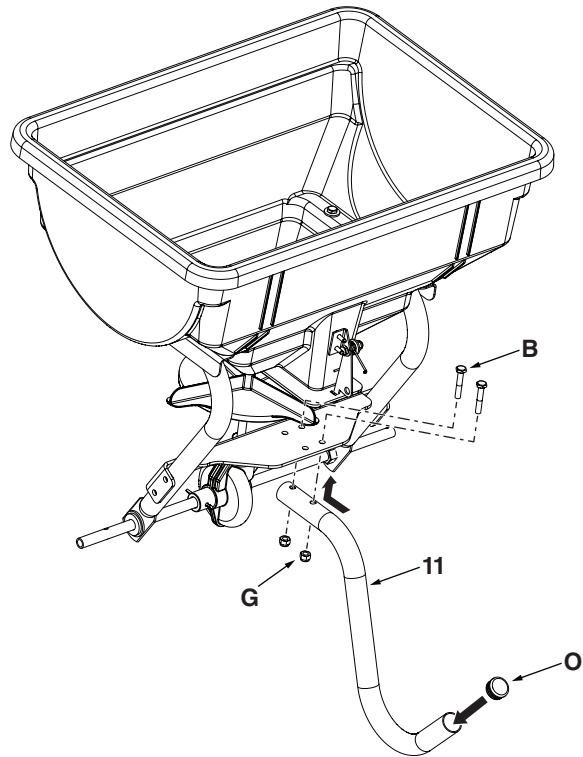

Figure 7
STEP 7: (SEE FIGURE 7)
- Attach the leg tube (11) to the frame using two 1/4 x 1-1/2" hex bolts (B) and 1/4" nylock nuts (G). Assemble the plugs (O) into the leg tube (11). Tighten hardware.